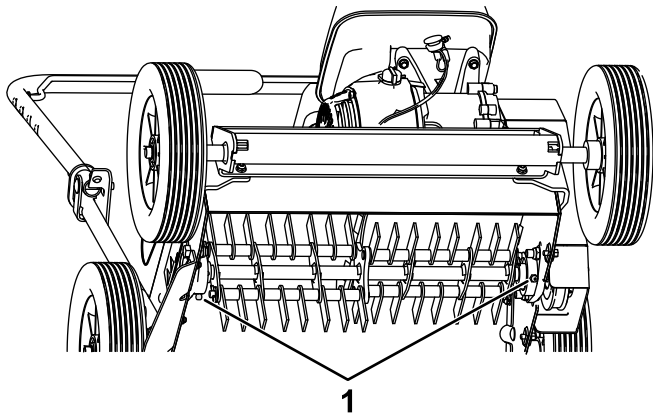

Figure 14
3. Lubricate the grease fittings under the deck with a grease gun and the specified grease (Figure 14).